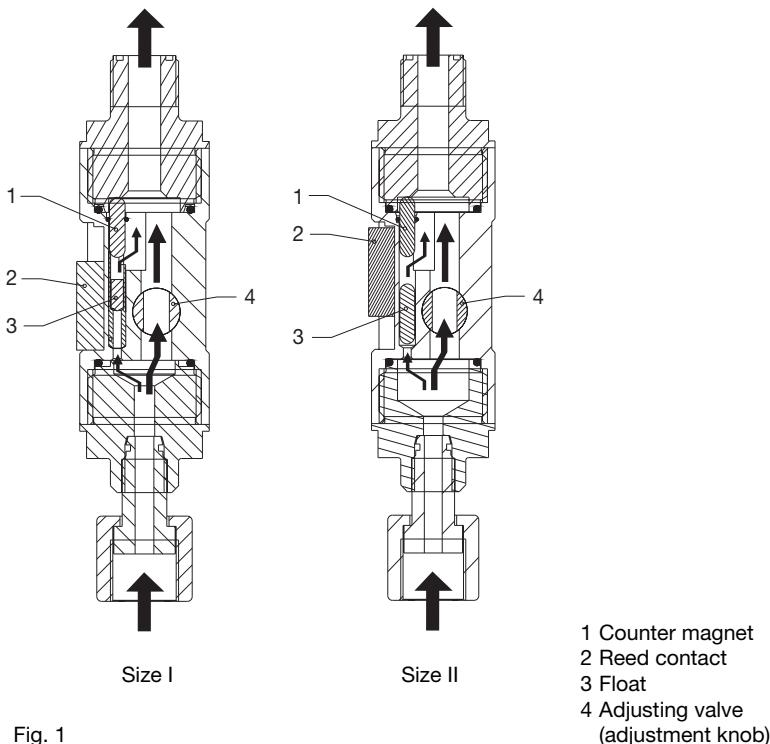

Fig. 1
The "Flow Control" flow monitor comprises essentially a pipe with a float (3) and a bypass with adjustable cross section (see Fig. 1). The adjustable cross section (control knob) enables the Flow Control to be adapted to the lift volume of the pump - its response sensitivity is adjusted accordingly.